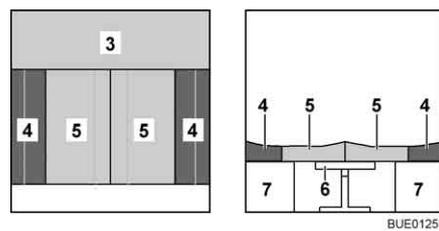

Fig. 94 After conversion
- Place the back cushions (Fig. 94,4) against the exterior wall. Observe the wedged form.
- Push the two seat cushions (Fig. 94,5) between the back cushions. Observe the wedged form.